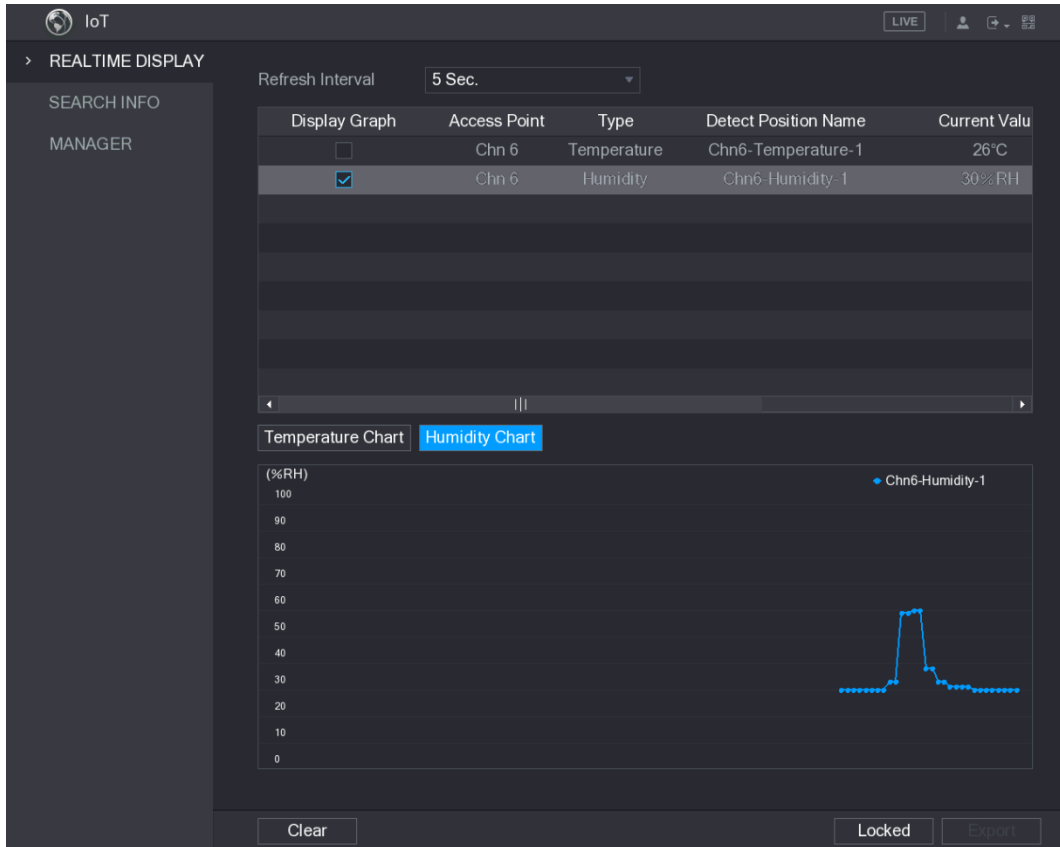

Figure 5-201
**Step 4** On the **Realtime Display** interface, click the **Humidity** tab. See Figure 5-201.